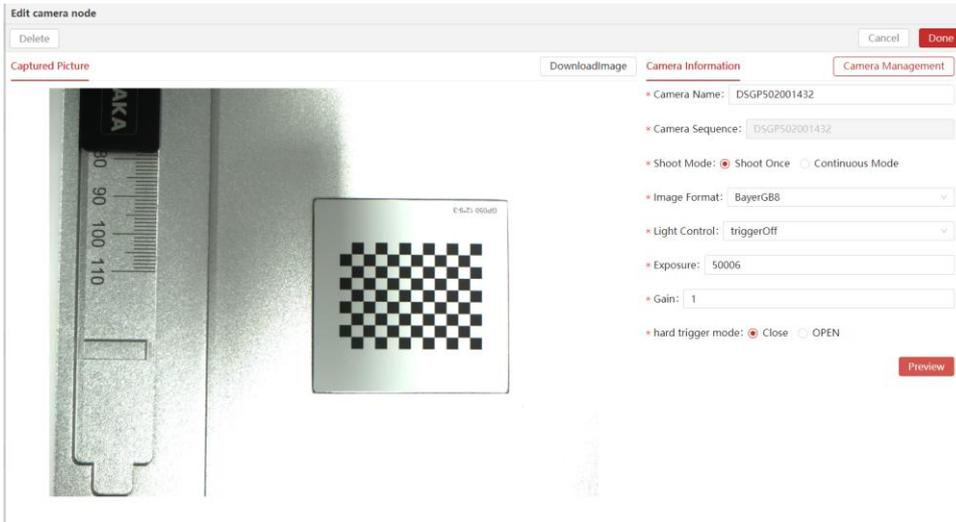

Figure 4.1-3
3) Place the calibration plate in the center of the field of view, adjust the camera exposure and gain, obtain an image with appropriate brightness and click [Finish] to save the settings. As shown in Figure 4.1-3.
3) Remove the top board of the education kit, place the calibration board in the center of the field of view, adjust the camera exposure and gain, and click [Finish] to save the settings after obtaining an image with appropriate brightness. As shown in Figure 4.1-3.